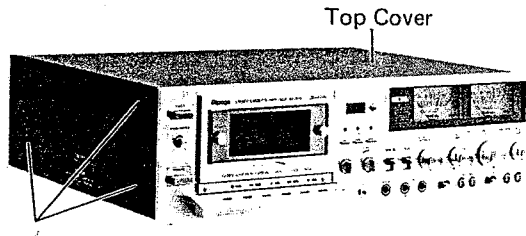

Figure 3
- (1) Remove six screws marked "o" as shown in Figure 3 and 4.